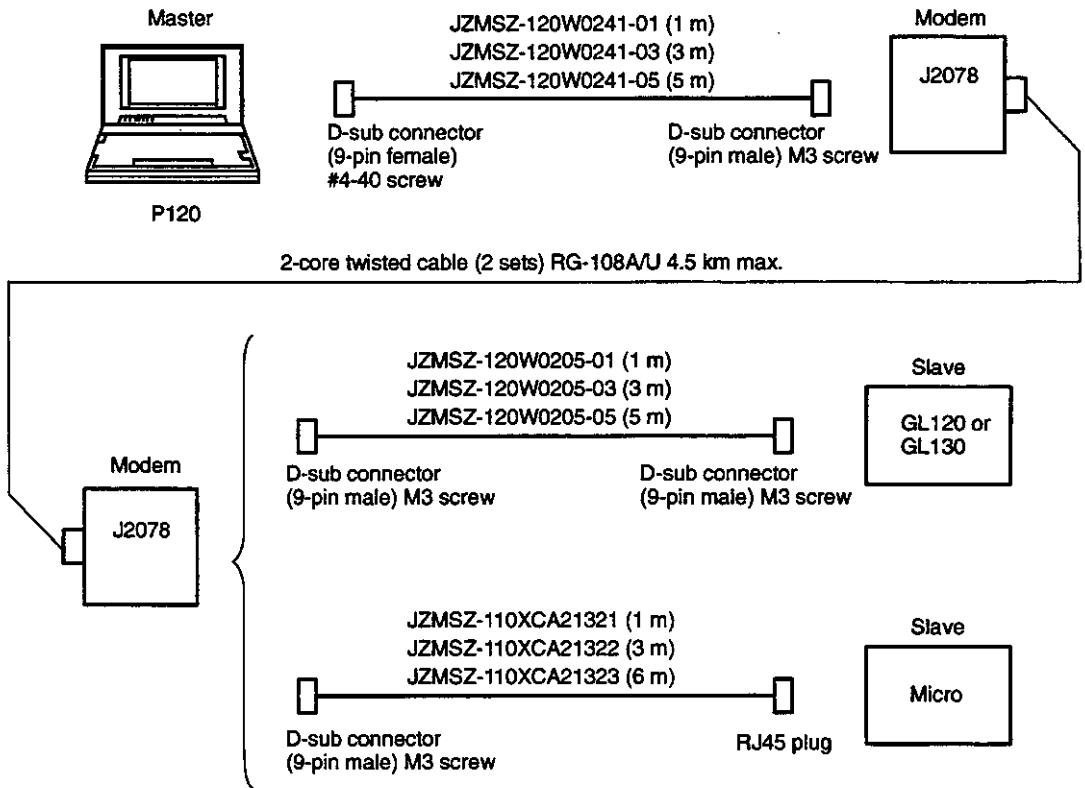

Figure 4.5 Programming Panel Master 1:1 Configurations Connected by Modems
1) Figure 4.5 shows Programming Panel configurations when the master and slave are connected 1:1 by modem. Alternate slaves are shown, but only one slave is actually connected in this type of configuration.